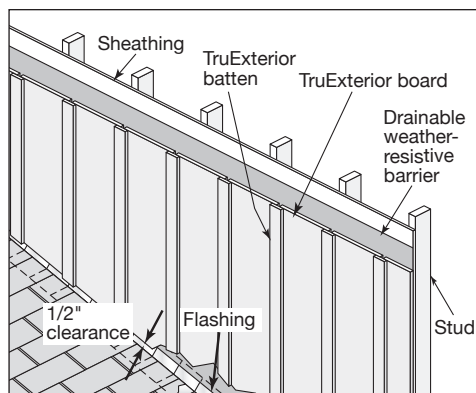

Fig. 38
- Always install drainable-weather resistive barrier according to local building code requirement (**Fig. 38**)